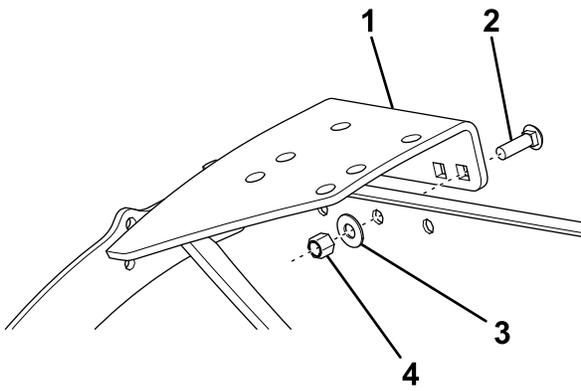

Figure 2
5. Loosely attach the spring bracket base-plate to the plow using a carriage bolt (3/8 inch), washer, and locknut (Figure 2).